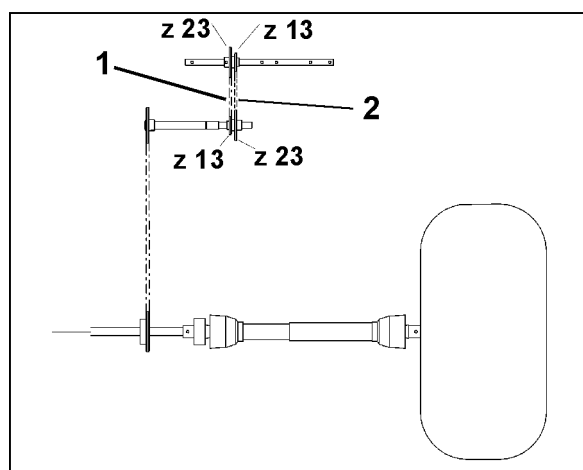

Fig. 14
- Slow ratio for normal amounts (Fig. 14/1).
- Fast ratio for large amounts (Fig. 14/2).